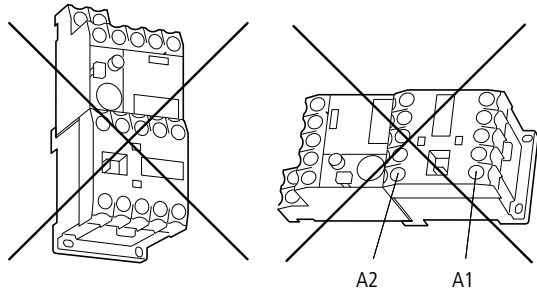

Figure 8: Impermissible mounting positions for DIL(E)EM/XTMC and ZE/XTOM (A1, A2 coil connection)
- Both can be mounted in any position, apart from as shown in Fig. 8.